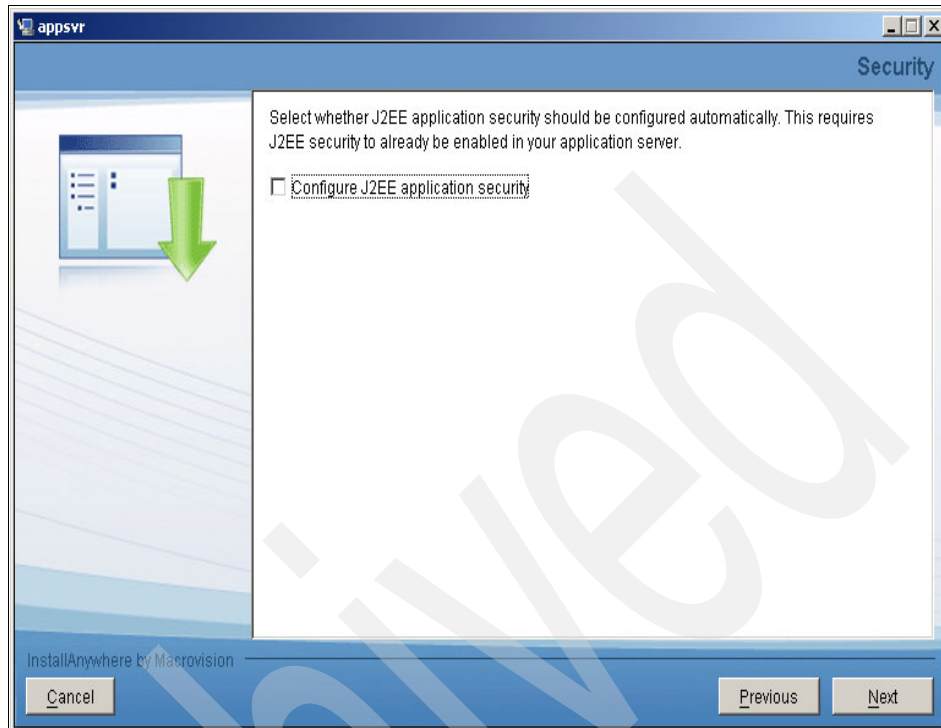

Figure 5-19 Security
14. From the Security panel (Figure 5-19 on page 92), indicate whether application server security should be enabled automatically, and then click **Next**.